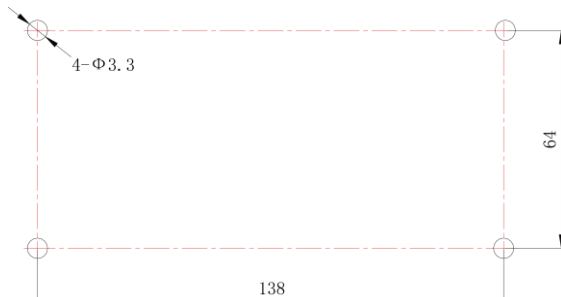

Fig. 3.9 Installation Holes of the Electric Box Rear Cover
- 2) In case that the centralized controller is installed inside the control cabinet, dig 4 installation holes on the surface of the control cabinet according to fig.3.9.
- (4) In step ①, pull out the power core and communication cord, and then lead them separately from the wire orifice of the electric box rear cover. Never lead the cords through a same orifice.
- (5) In step ②, locate the electric box rear cover to the installation holes of the wall with screw  $\text{ST}4.2 \times 16 \text{ FA}$ .
- (6) In step ⑥ pull out the wire connecting the touch screen and controller's rear cover. Put the touch screen on a safe place.
- (7) In step ⑦, connect the communication cords to G1, G2 terminals, and connect the neutral wire and live wire to the N, L terminal; connect the ground wire to position  $\perp$  on the electric box rear cover. Secure it with screw  $\text{M}4 \times 12$ .
- (8) In step ⑧, locate the controller's rear cover onto the electric box rear cover with screw  $\text{ST}4.2 \times 9.5 \text{ TC}$ .
- (9) In step ⑨, connect the wire between touch screen and controller's rear cover.